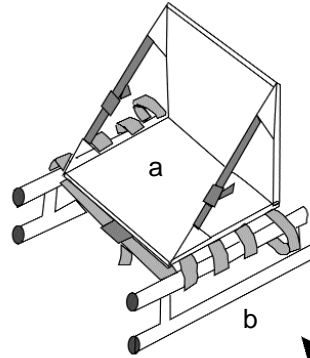

Fig. 1a
2. Assemble padded seat (see figure 1a) by strapping padded seat bottom over the seat support frame member. Seat back adjusts using side straps (see figure 1a)